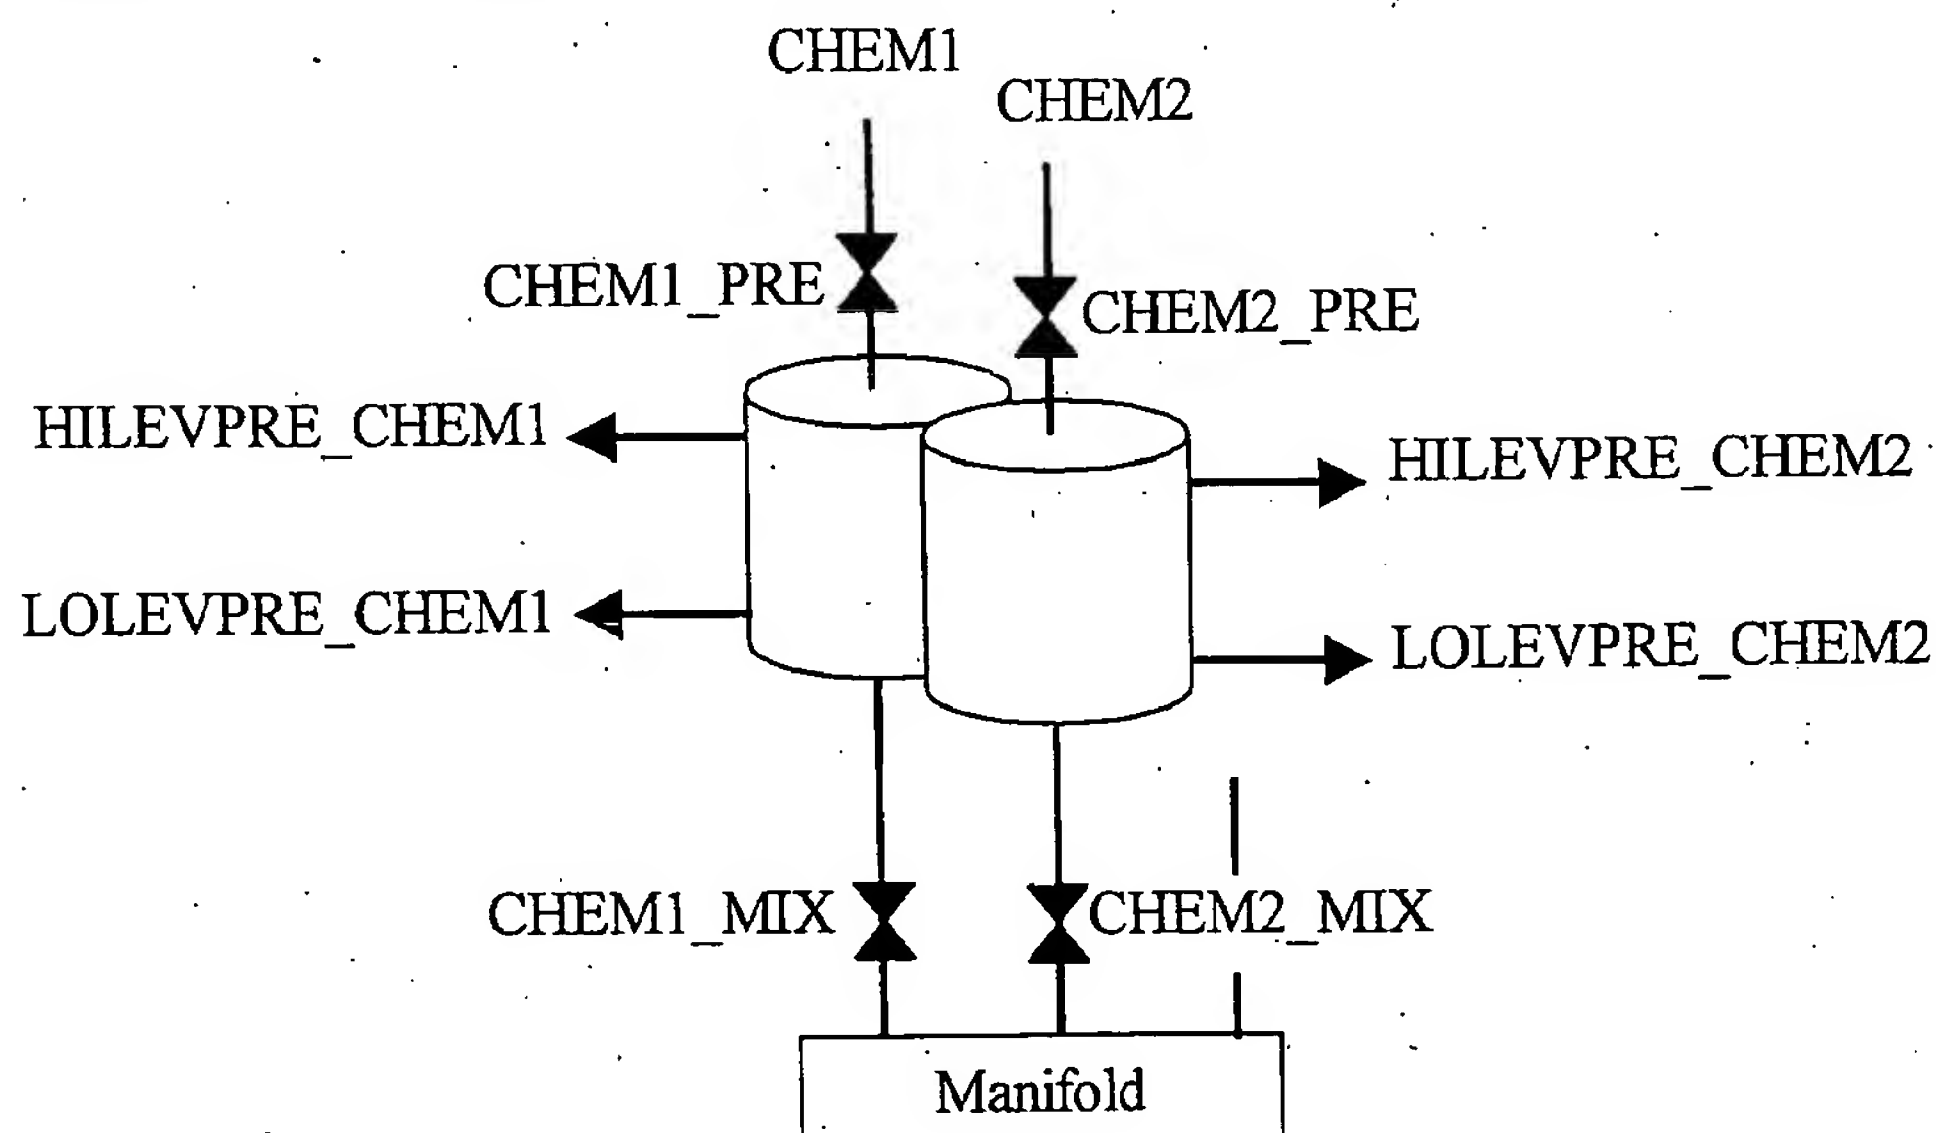

Figure 8 Pre-weigh option (option B)
- The inlet valve is **opened** when the corresponding LO LEVEL SENSOR becomes TRUE (see Figure 8).